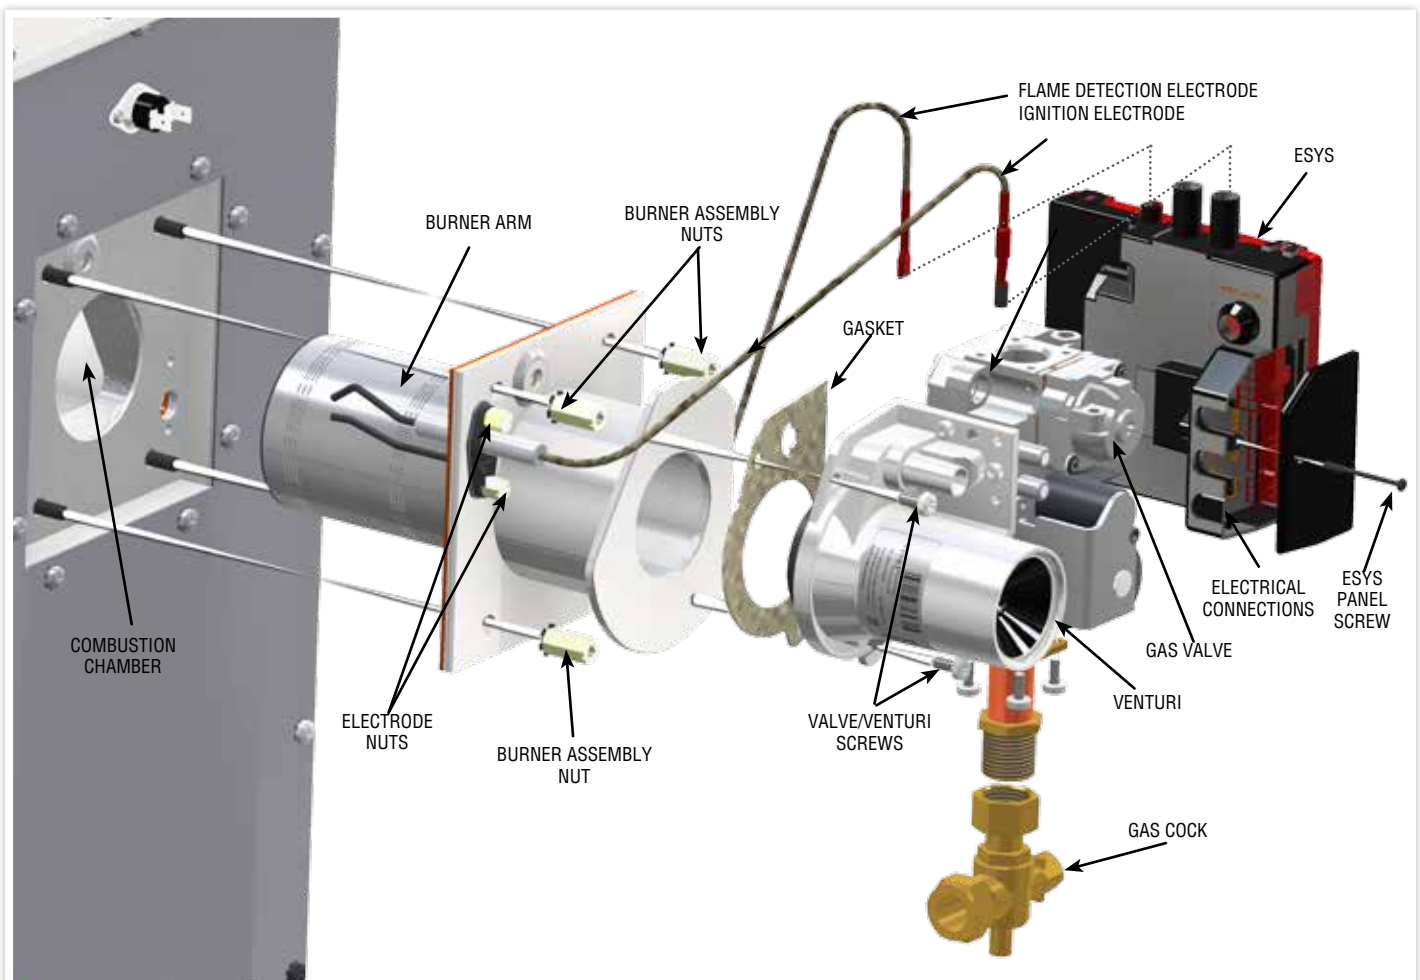

FIGURE 29. MAIN BURNER ASSEMBLY
- 17.9.1 Refer to section 16.3 and See Figure 29.
- 17.11.1 Refer to section 16.3. See Figure 29.
- 17.12.1 Refer to section 16.3. See Figure 29.
- 17.13.1 Refer to section 16.3. See Figure 29.